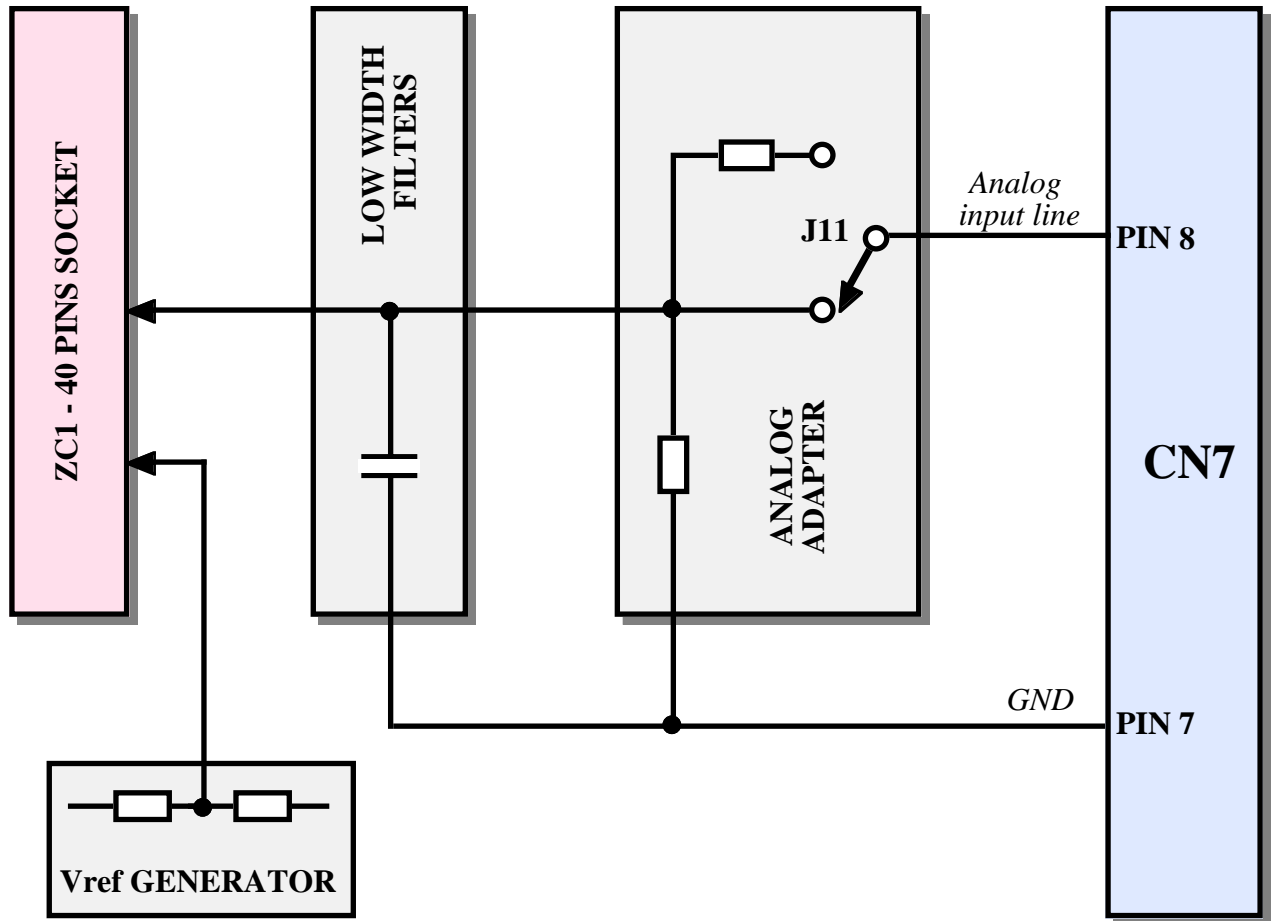

FIGURE 24: A/D ANALOG INPUT CONNECTION DIAGRAM
- A/D** = I - Analog input for A/D converter section (please see figure 24).